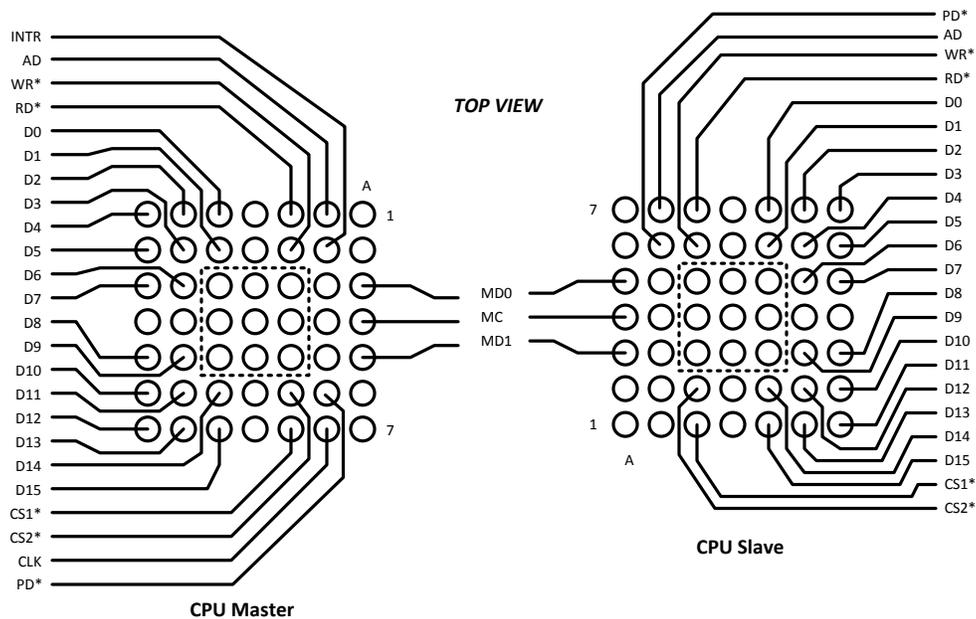

Figure 16. MPL Interface Layout and Flow Through Pinout
Multiple configurations for PowerDown are possible with the chipset. These depend on the operating mode and configuration chosen. Two possible applications are shown in Figure 16. In (A) both the Master and Slave provide a PD* input pin. This can be connected together as shown or remotely driven (i.e. a GPO signal from another device, assuming same VDDIO level). However for proper MPL start up, the Slave must be powered up at the same time or before the Master device. Do not power up the Master first. In (B) two separate control signals are used. Note that the Master should not be powered up before the Slave.
The LM2507 provides a swap function of MPL MD lines depending upon the state of the M/S* pin. This facilitates a straight through MPL interface design eliminating the needs for via and crossovers as shown on Figure 16. The parallel bus pins are also swapped to facilitate a flow through orientation of parallel bus signals.